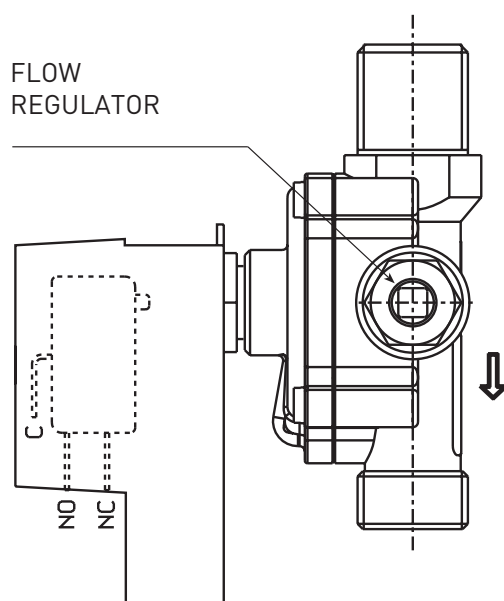

Fig. 5
2.2.2 D.H.W. production on "DUETTO HE" version (fig. 5)
To adjust water flow use the water pressure gauge flow regulator (fig. 5):